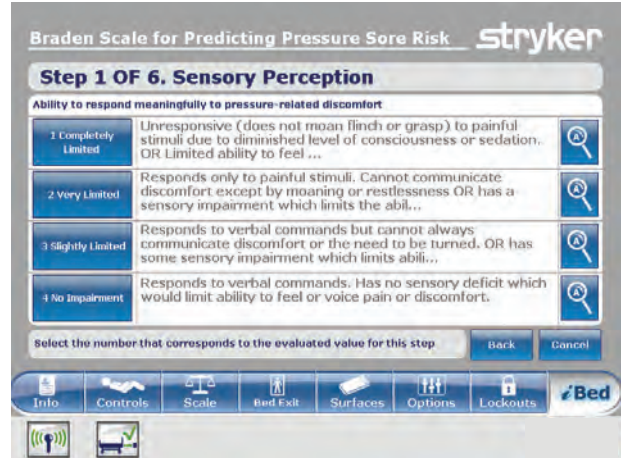
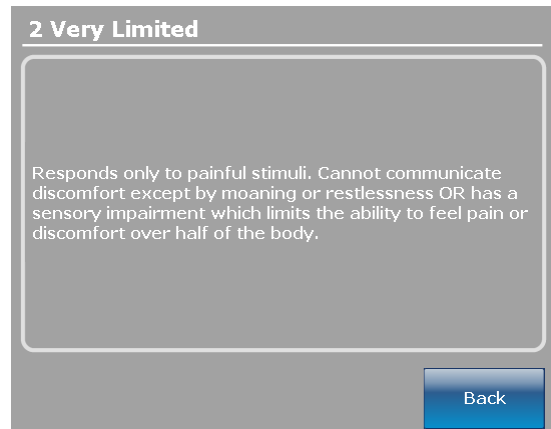

Figure 111: Braden scale for predicting pressure sore risk
Figure 112: Complete value information
2. Tap the corresponding value (1-4) in each category (Figure 111 on page 97).
Note: To view a complete description of a value, tap the magnifying glass icon (Figure 111 on page 97). Another window appears with the complete value description (Figure 112 on page 97).